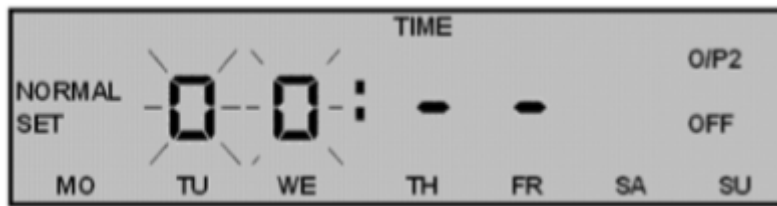

Figure 10
- 2.13 Increase the hours by pressing SET button, once the correct hour is displayed press MODE button once to move to set the minutes (Figure 10)